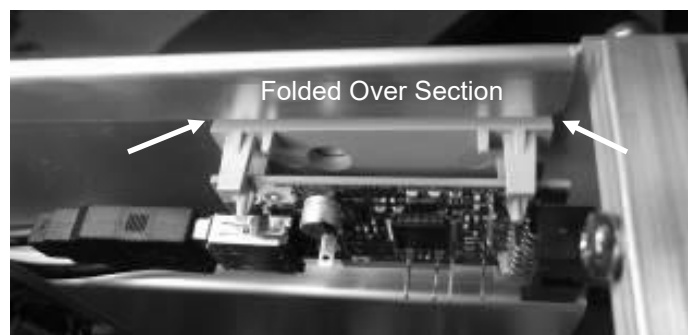

Figure 13
21. The finished installation of the card reader adapter board assembly with cables attached is shown in Figure 13. Notice how the edge of the card reader adapter board holder is under the folded over section of the card cage.